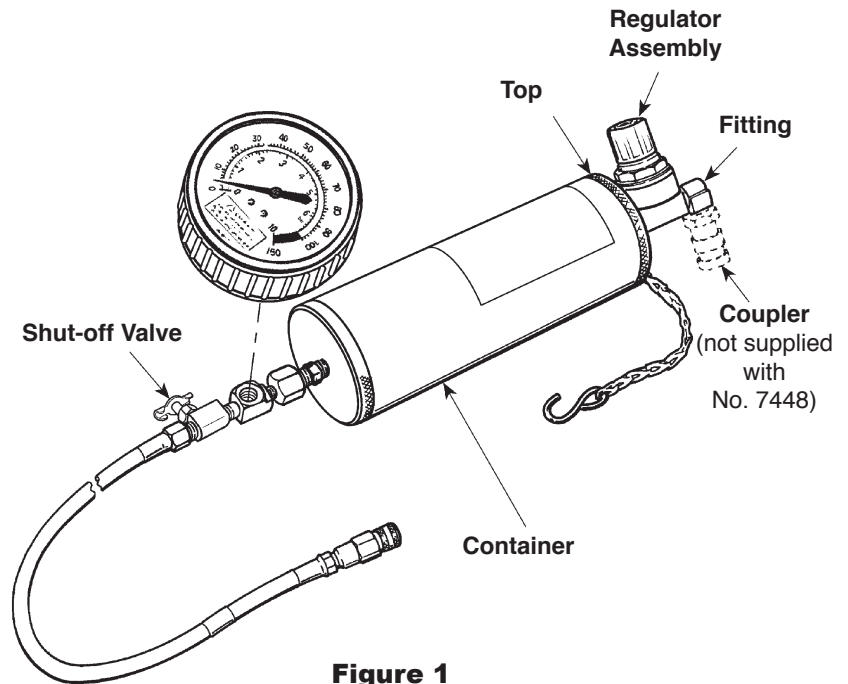

Figure 1
5. Turn OFF the shut-off valve at the bottom of the Fuel Injector Cleaner container. See Figure 1. *Note: Valve is OFF if it is turned all the way clockwise.*